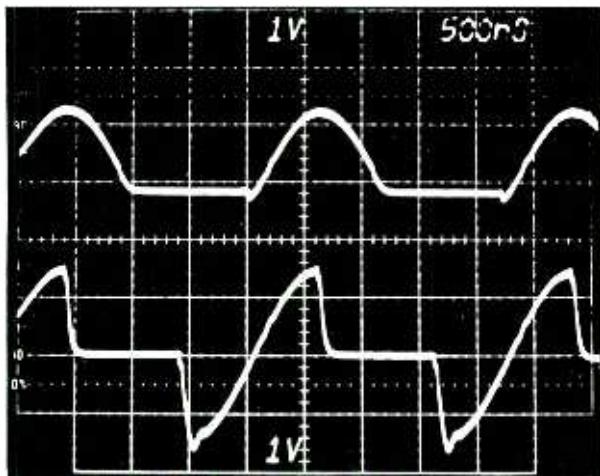

Fig. 6. The I and Q waveforms at pins 14 (top) and 15 (bottom) of IC2.
**Adjustment.** After interfacing the receiver to the synchronous detector, place mode switch S1 in the TUNE position and tune in a station. If the i-f signal level is above the 50 mV p-p minimum, pin 1 of IC5 should be between -4.5 and +4.5 volts. Tune L1 for the most negative voltage at this pin. Adjust L3 until tuning meter M1 indicates correct center-channel tuning. The PLL should now be locked, and the LOCK LED should illuminate. Adjust L2 for maximum dc voltage at pin 1 of IC4. As there is also audio present at pin 1, use of a conventional mechanical-movement voltmeter (instead of a digital meter) will avoid confusing readings. This is a coarse adjustment of L2. The I and Q channel detector waveforms, at pins 14 and 15 of IC2, are shown in Fig. 6.